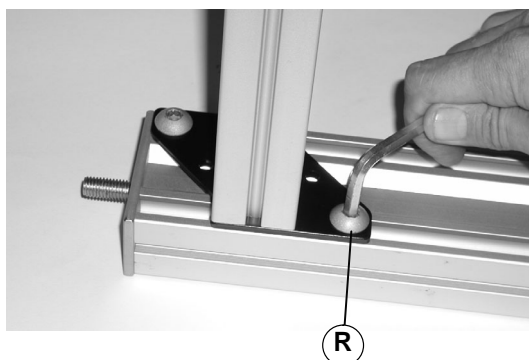

Figure 5
6. Tighten four button head screws (R of Figure 5) to 150 in-lb (17 N-m).